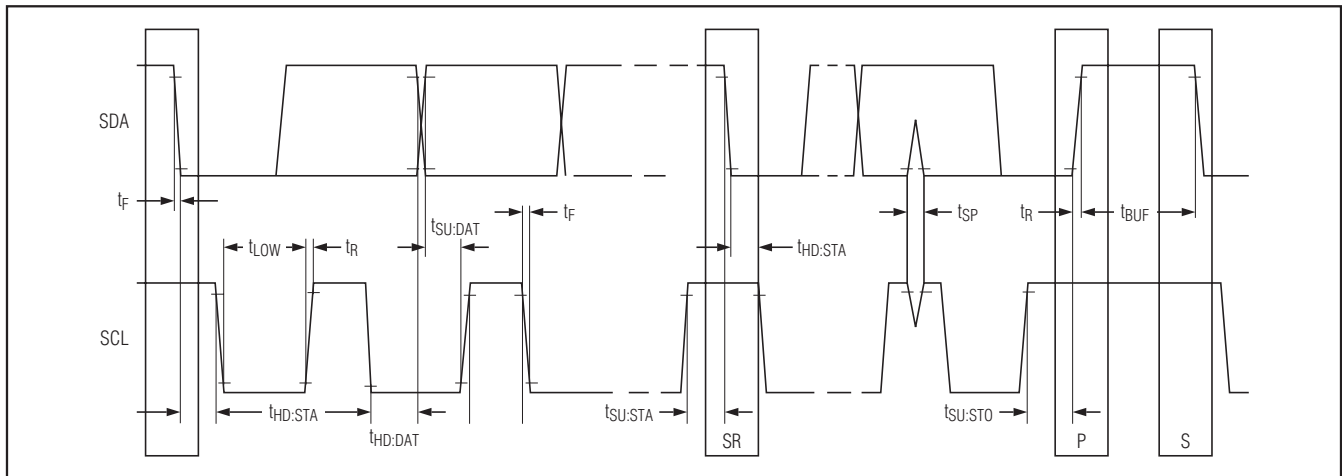

Figure 1. Timing Diagram
**Note 9:** See the timing diagram (Figure 1). All timing is referenced to 0.9 × VDD and 0.1 × VDD.